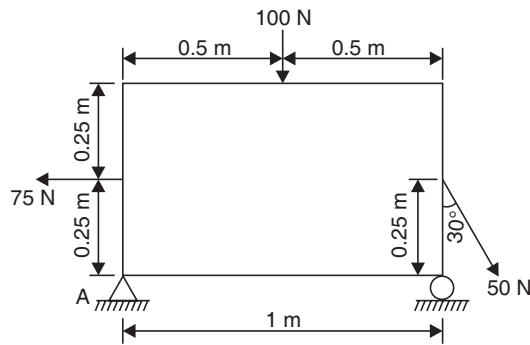

Fig. 3.56
**Example 3.24.** Find the sum of the moments of the forces shown in Fig. 3.56 about point A.